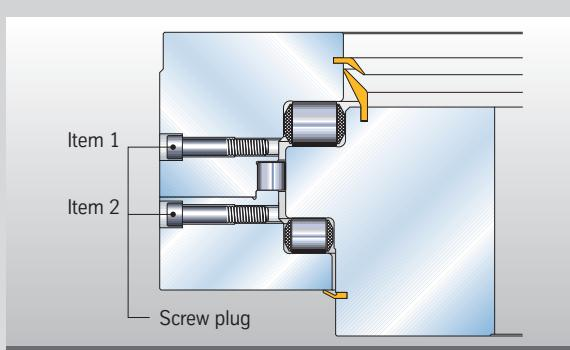

Figure 12: Three-row roller bearing slewing ring with grease sampling ports
Remove the screw plug (M16 EN ISO 4762) selected for taking the sample: item 1 and if necessary item 2 opposite (figures 12 and 13).